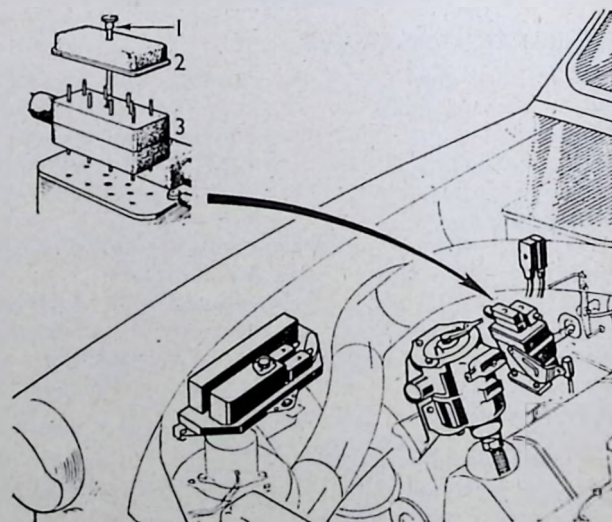

FIG. 1.—Reversing the emergency drive plug.
With the ignition switched off, remove the retaining screw (1) and red cover (2) from the front plug (3) on the selector switch at the foot of the steering column, withdraw the plug, reverse it and re-insert it with the red face downwards. (See Fig. 1.)